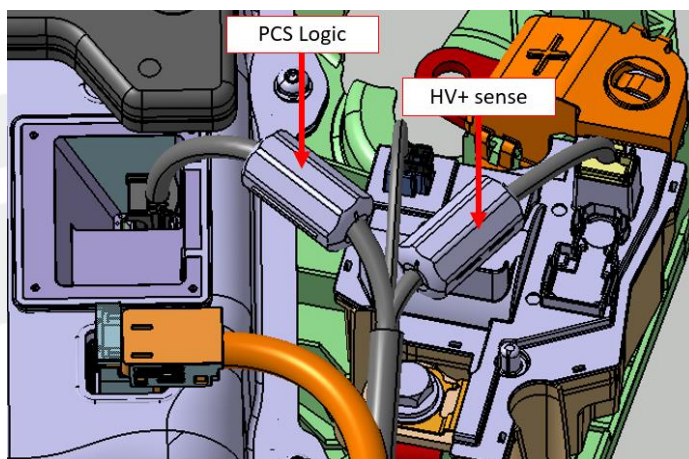

Figure 3
6. If clip-on ferrites are present on this section of the ancillary bay LV harness, remove and discard the ferrites from the PCS logic harness branch and the HV+ sense harness branch (Figure 3).